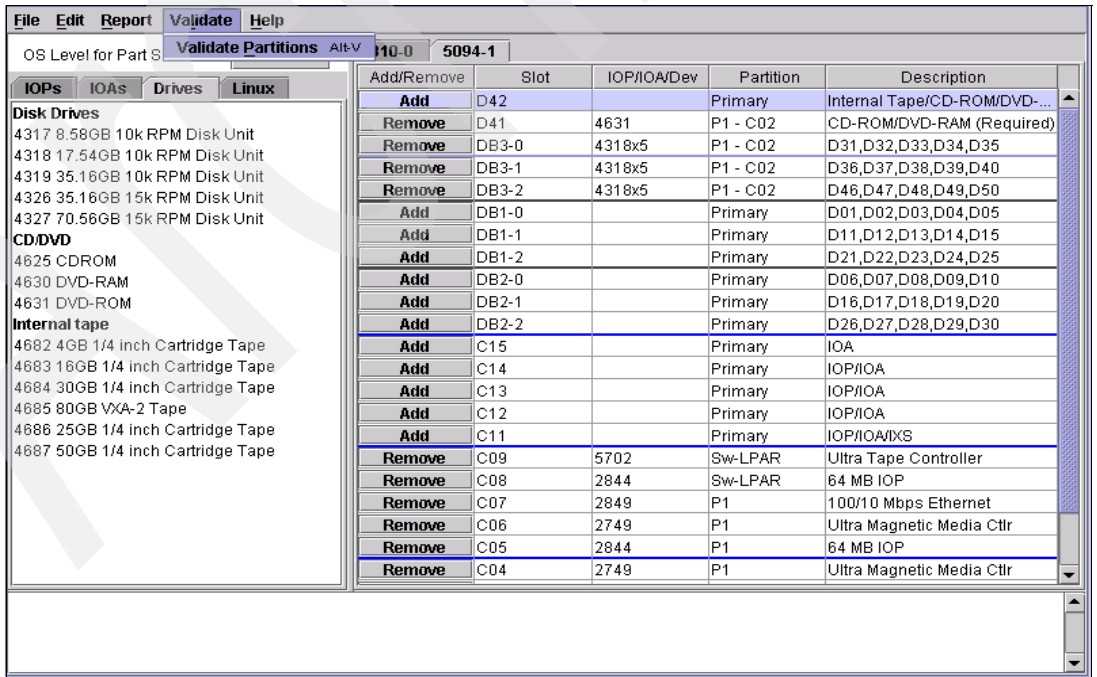

Figure 9-7 Example window Partition Validation
- e. Validate the LPAR configuration by selecting **Validate**. Correct any errors as they appear in the message window in red (Figure 9-7).